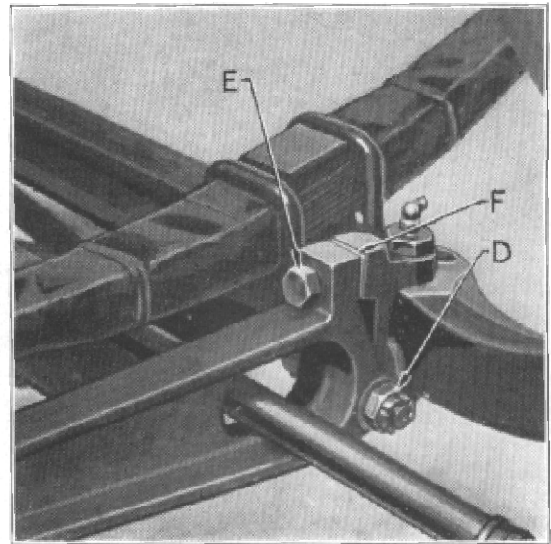

Figure 20
148. If the caster is less than 3-1/2 or more than 4-1/2, remove the cotter key from the horizontal bolt (D) attaching the torque arm to the axle yoke and loosen nut. (Figure 20.)